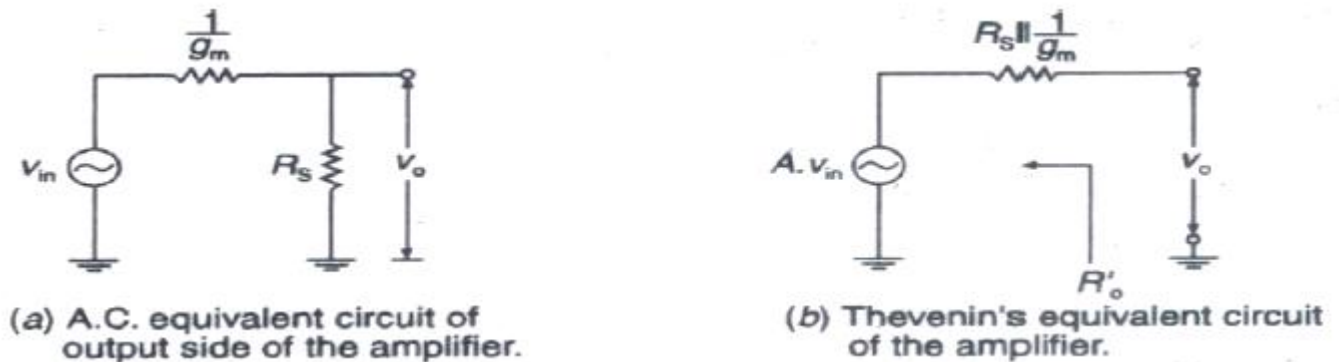

Fig. 5.7
- It means that the output side of the amplifier appears as shown in Figure 5.7(a).
- The resulting circuit is as shown in Figure 5.7(b).